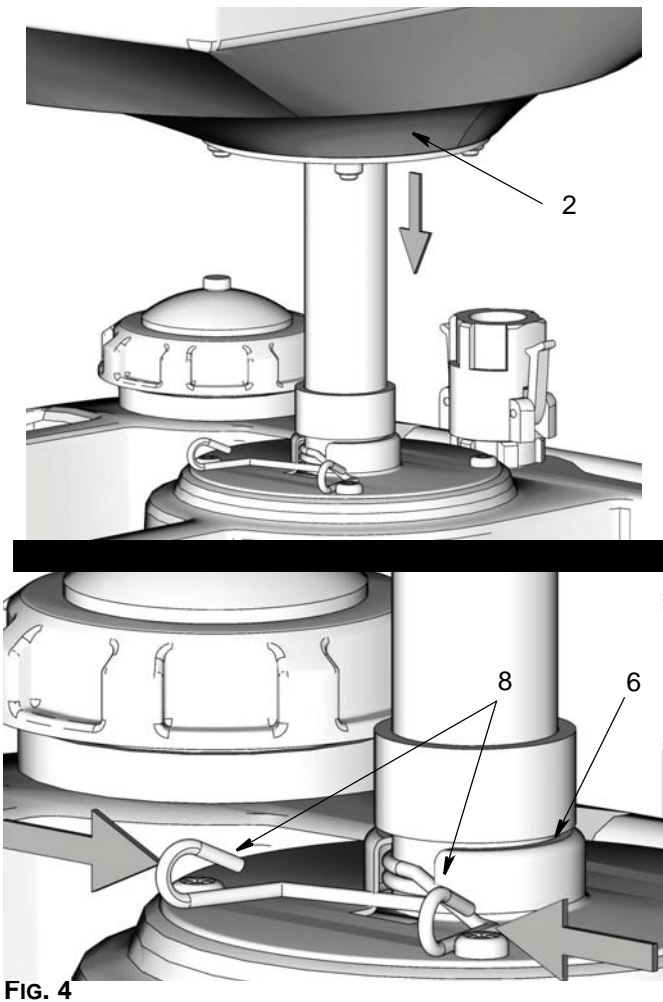

FIG. 4
**NOTE:** Before adjusting the position of funnel assembly (2), ensure it is clear of any obstructions and all fluid has been drained through the strainer.
When compressing the torsion spring (8) do not allow the funnel assembly (2) to freely drop. This could result in your fingers or hand being pinched between the funnel assembly (2) and funnel collar (6). Always support the funnel with one hand whenever you compress the torsion spring (8) to change the funnel assembly position. See FIG. 4.
1. When the collection container is in the correct location for draining, set the funnel assembly (2) height.
2. Squeeze the torsion spring (8) with one hand while you use your other hand to raise or lower the funnel assembly (2) into the desired position.